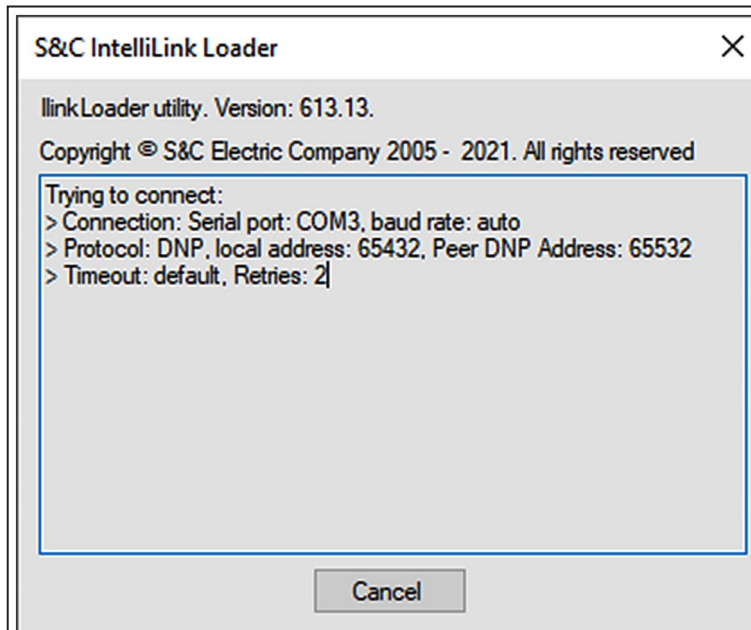
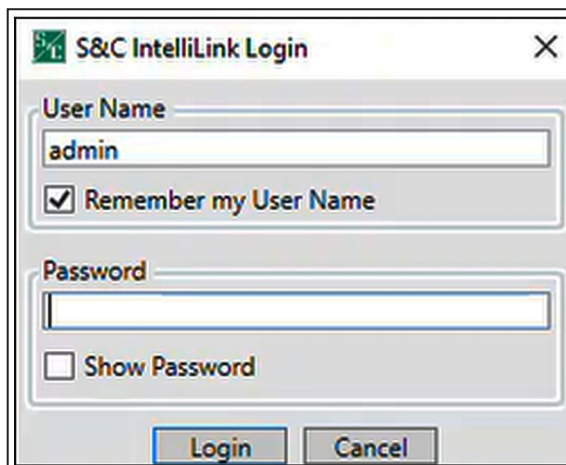

Figure 9. The S&C IntelliLink Loader dialog box.
Figure 8. The User Name and Password entries in the S&C IntelliLink Login dialog box.
**STEP 5.** The S&C IntelliLink Loader dialog box will open followed by the S&C IntelliLink Login dialog box. See Figures 8 and Figure 9 on page 14. Enter the username and password, and click on the **OK** button. Contact the Global Support and Monitoring Center at (888) 762-1100 when assistance with these entries is needed.